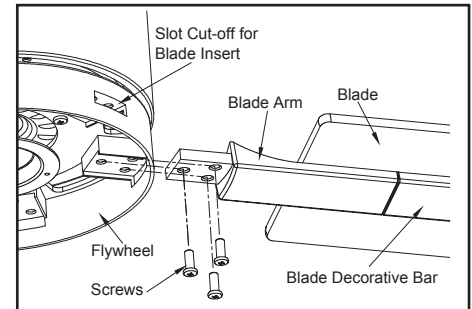

Figure 13
2. Insert a blade assembly to the slot cut-off in the center flywheel, align the three screw holes in the blade assembly with the screw holes in the flywheel and secure with the screws provided. Repeat for the remaining blade assemblies. (Figure 13)